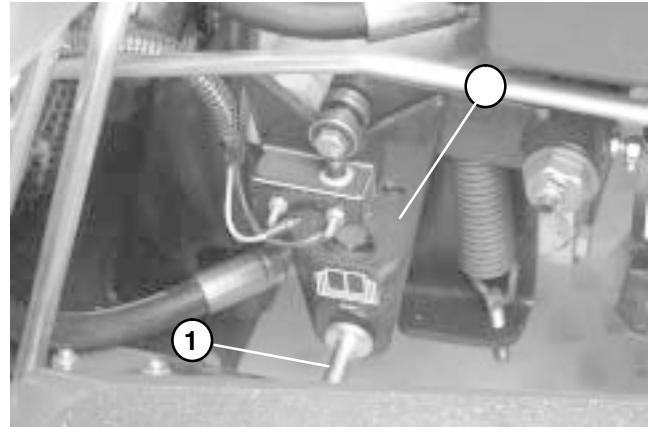
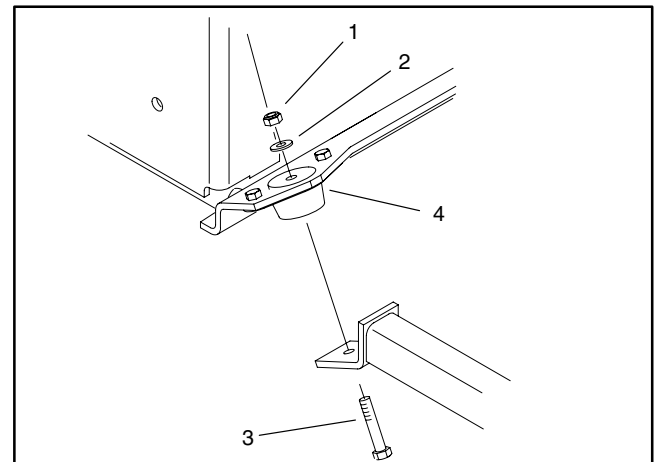

Figure 89
Figure 90
3. Disconnect air hose from the air cleaner. Remove lower shroud from the cooler mount. Disconnect control rod from the pump lever (Fig. 89).
4. Clean around hydraulic fittings (36) on the oil cooler (30). Disconnect hydraulic tube (37) and hose (28) from the cooler. Allow fluid to drain into a suitable container.
- B. Remove lock nuts, flat washers, and cap screws securing front engine mounts to the frame (Fig. 90).
- C. Secure front engine mounts to the frame with cap screws, flat washers, and lock nuts (Fig. 90).
9. Remove caps or plugs on disconnected hydraulic hose (28) and tube (37).
10. Make sure hydraulic fittings (36) on the oil cooler (30) are clean. Connect hydraulic tube (37) and hose (28) to the cooler.
11. Connect air hose to the air cleaner. Remove lower shroud to the cooler mount. Connect control rod to the pump lever (Fig. 89).
13. Fill hydraulic tank (40) with hydraulic fluid (see Check Hydraulic System Fluid).